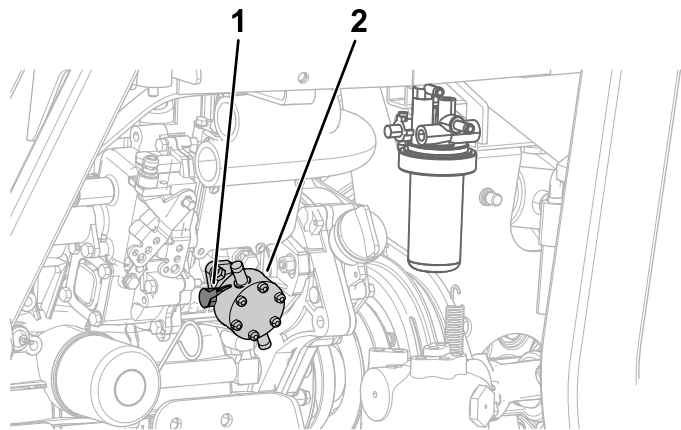

Figure 64
At the left side of the engine, operate the lever of the fuel pump until you fill the fuel-filter bowl (Figure 64).
7. Operate the lever of the fuel pump until you see solid stream of fuel flows out around the screw; refer to Figure 64 in Priming the Fuel System \(page 52\).